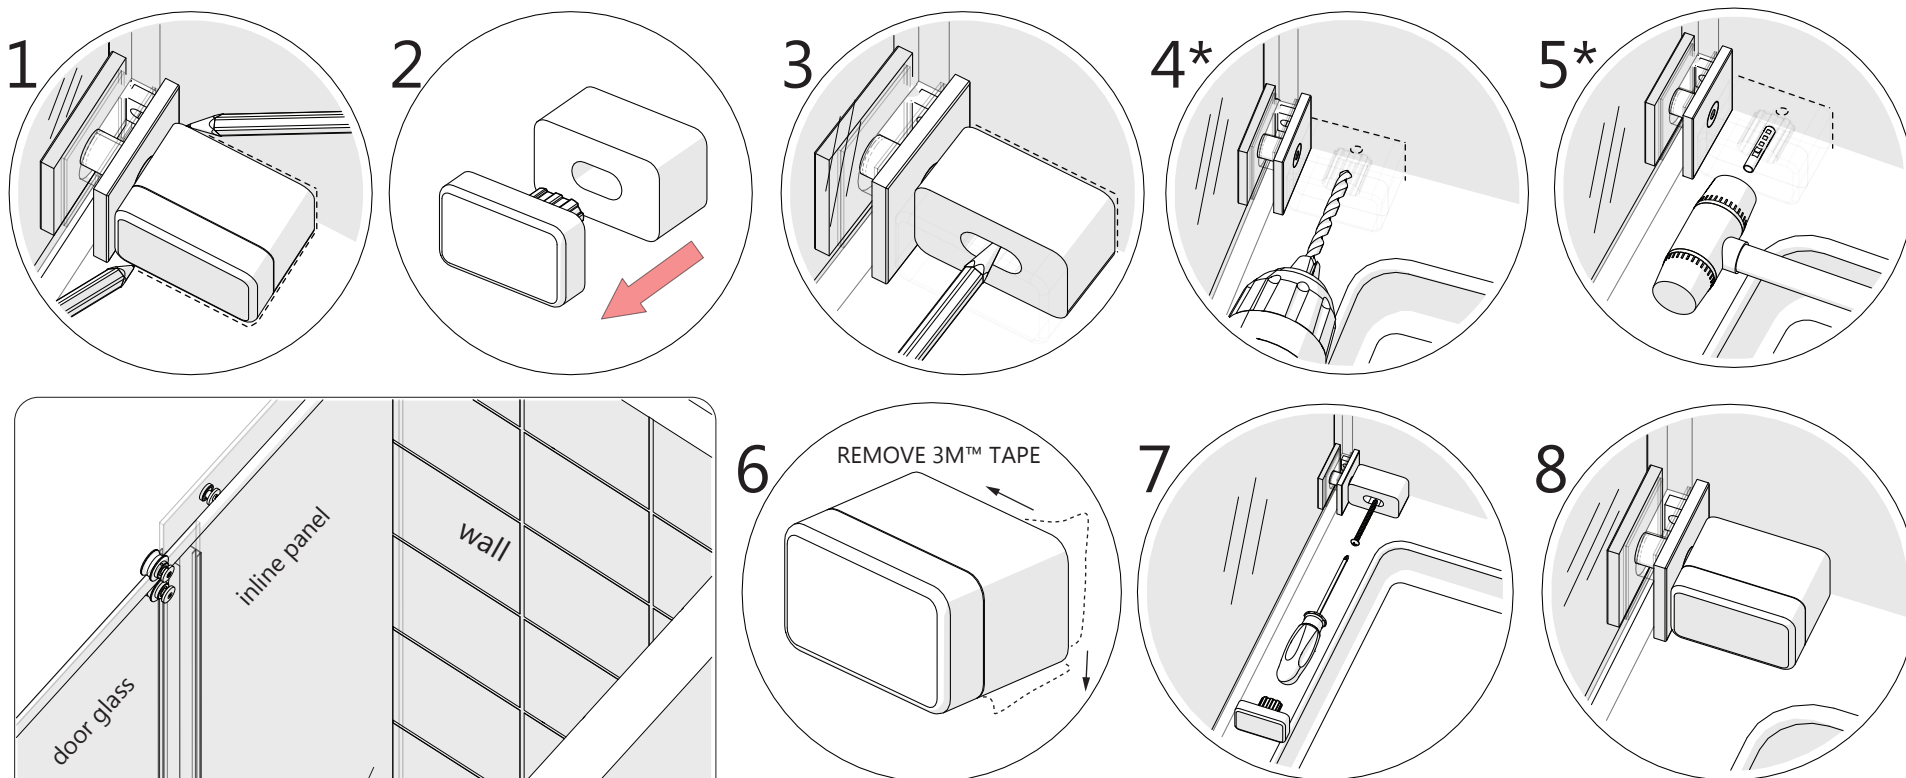

Fig 26
**For 72" Model:** This will be the side of the opening with the large stationary panel. Mark the position of the hole onto the wall. Drill the correct hole diameter (see Note above). Remove the 3M™ Tape and position the **SafeStop™ Bumper (#30)** onto the threshold against the **Wall Bracket (#19)** and attach using the **ST4.2 x 40 Countersunk Screw (#17)**. (Fig 26)